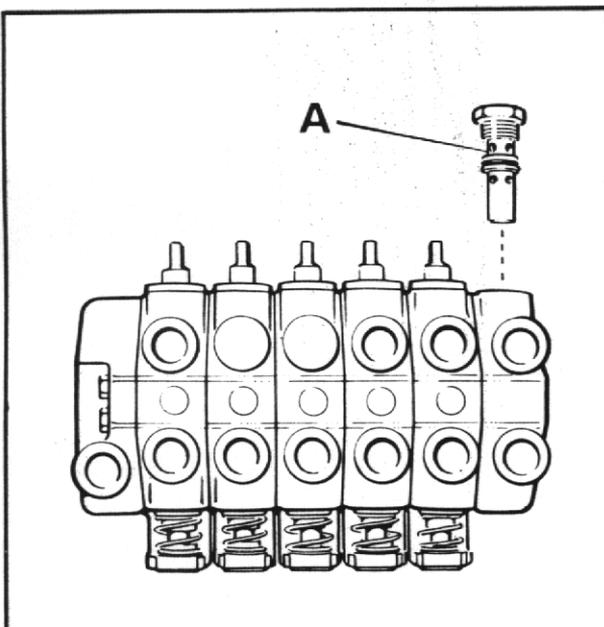

Fig.6
- c) If the correct pressure is not obtained remove relief cartridge (A) Fig.6 from the control valve and replace with a new one.